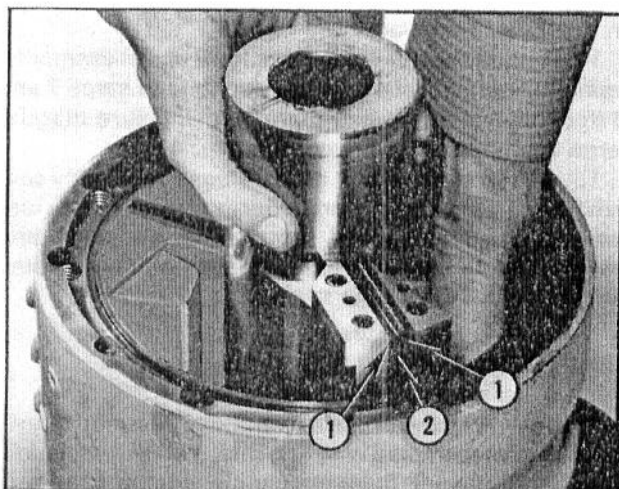

Fig. 35 — Removing/Installing Vaned Shaft
b. Position vane shaft as shown in Fig. 35, then carefully remove it from the barrel.